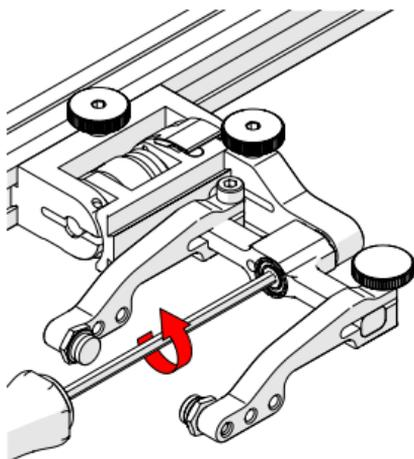

Fig. 105 - Unscrew yoke pivot screw
1. Unscrew the yoke from the swing arm (Fig. 105).